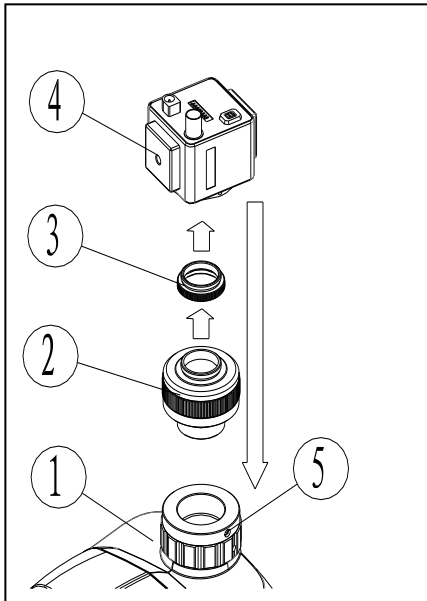

Fig 16
1. Insert the stage plate (2) to slide on the spring of the bedplate ①, then make the plate into the mounting hole and press from top to down to make it firmly installed.
7.2.4 Camera installation (Only apply to trinocular body) (Fig 16)